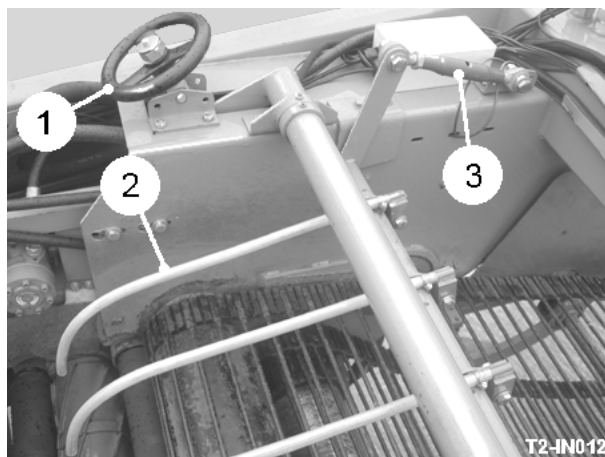

Fig 14
Rotating the position of the haulm roller relative to the digger web alters the amount of material the roller removes. The roller position can be adjusted by turning the hand wheel (item 1, fig 14). The higher the roller is positioned relative to the web, the more material will be removed. Lowering the roller relative to the web will allow the flow of material to pass over the top of the roller onto the 1st separator unit. Adjusting the haulm roller until the maximum amount of haulm is removed with the minimum amount of potatoes being pulled through or nipped requires careful setting. This setting will need to be altered for different crop conditions, but the initial setting should start with the roller well down and then gradually raising it up. For effective harvesting this is one of the most critical adjustments, hence the simplicity with which it can be varied on the T2.
The function of the haulm fingers (item 2, fig 14) is to catch the haulm and direct it down into the haulm roller. Moving the haulm fingers away from the web will allow a clearer flow for the crop. In green top or heavy trash it may be necessary to rotate some of the fingers out of the crop flow to prevent overloading of the haulm roller and excessive damage to the crop. By adjusting the turnbuckle (item 3, fig 14) the fingers can be raised or lowered. A plastic sleeve is fitted to each finger. The sleeves prevent bruising of the potatoes and should be replaced when they wear through or are lost.